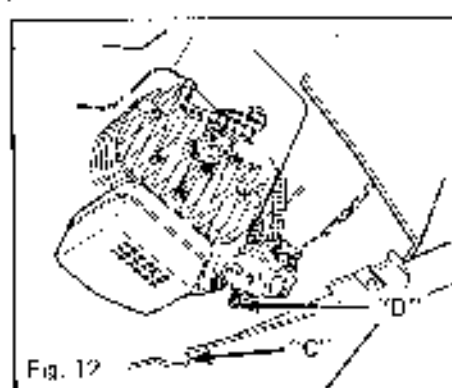

Fig. 13
Adjust cable (F), Figure 13 up or down by moving chain (F) one-half line (one loop) at a time. If impeller doesn't rotate when engaged, unhook chain, pull up on cable and rehook chain in next lower loop. If impeller rotates without engaging, unhook chain and rehook chain in